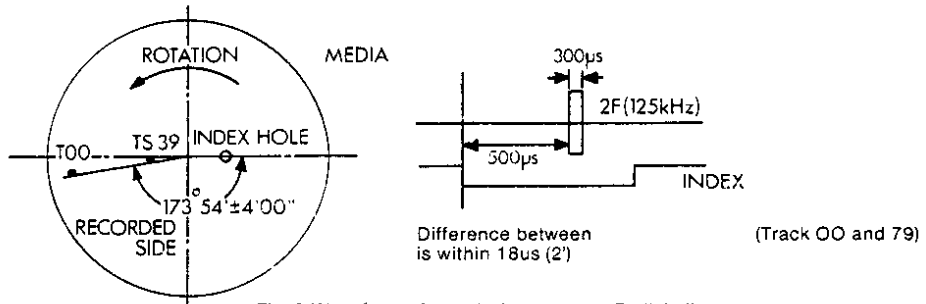

Fig. 2 Waveform of (Index pattern - Radial alignment)
2. Adjustment of the index burst by use of Track 79, 159. Fig. 2.	○
- 4) Adjust OO Sensor (8 on Fig. 6) so that scope shows correct difference as Fig. 2.